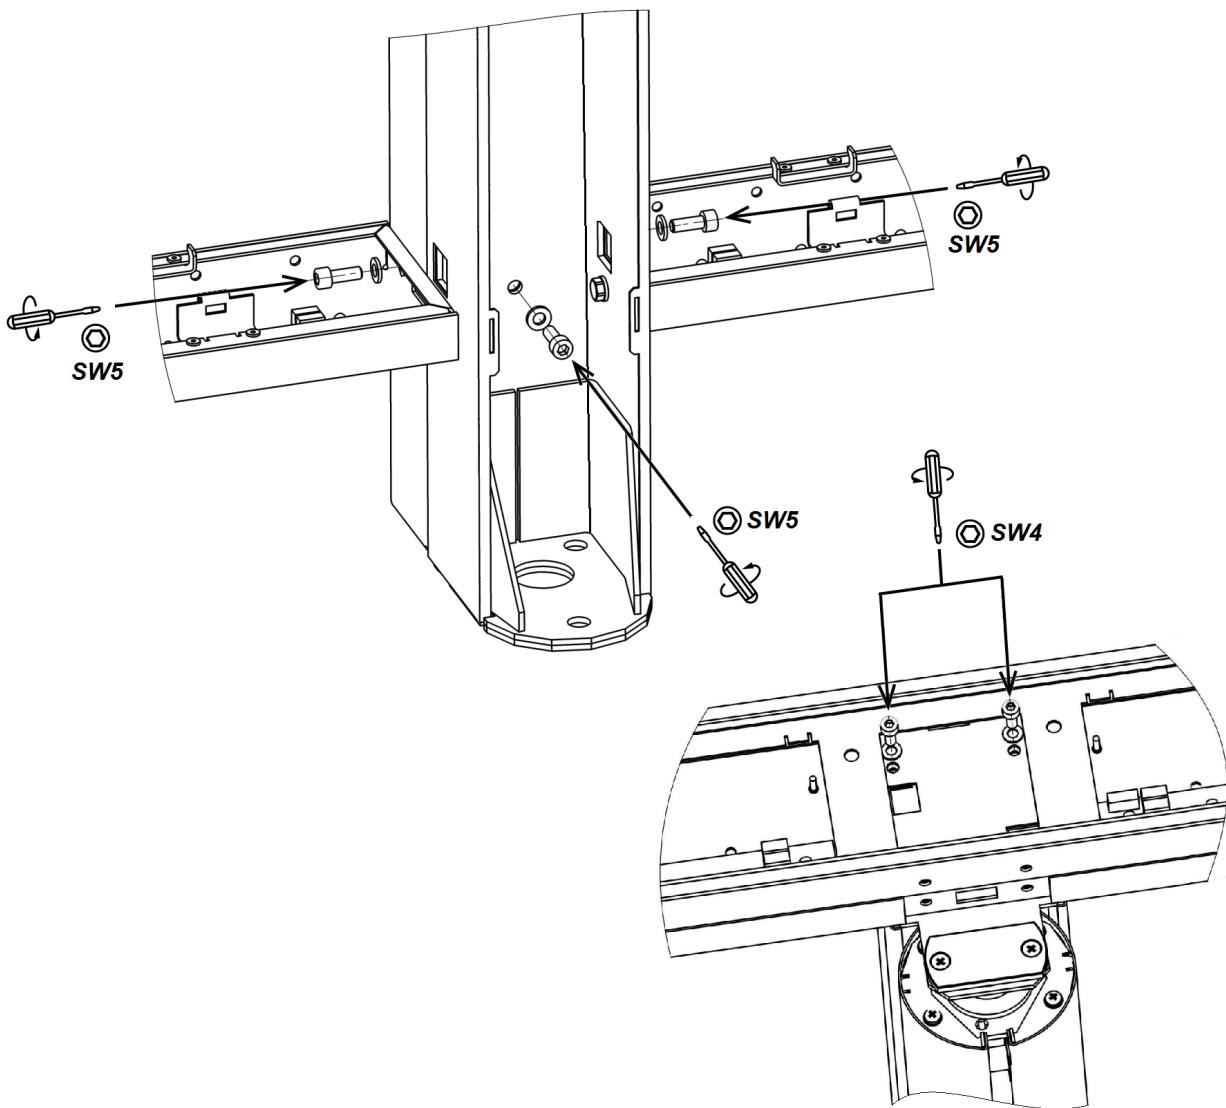

Figure 31. Central post rear panel disassembly
1. Remove the section top cover (10) (Sect. 8.9.6) and two protection plates.
2. Remove the indication block of the central post (3) (Sect. 8.9.5).
3. Remove the swing panel cover plate (4) (Sect. 8.9.4).
4. Remove the central post cover plate (5) (Sect. 8.9.1).
5. Remove both covers from the bottom duct (14) (Sect. 8.9.7).
6. For **ST-01** section: remove the central post rear panel (6). Unscrew 2 M6×16 screws (for SW5 Allen wrench) in the bottom ducts, M6×16 screws (for SW5 Allen wrench) at the bottom of the central post and 2 M5×12 screws (for SW4 Allen wrench) in the top duct (Fig. 31).